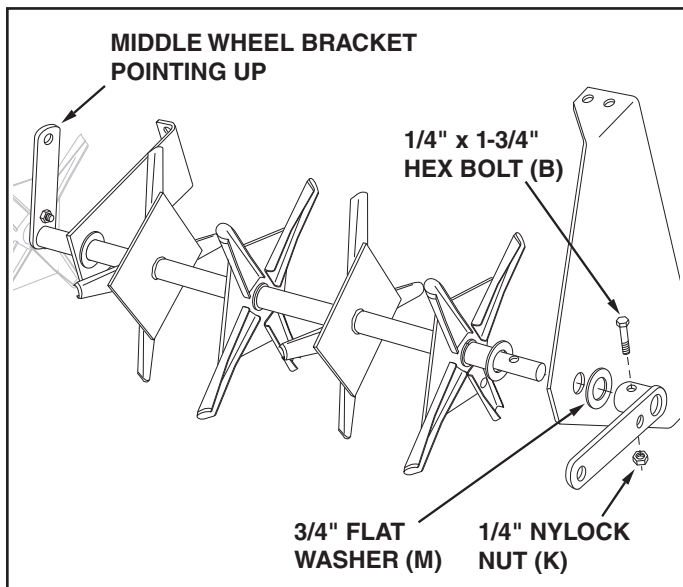

FIGURE 5
6. Rotate the wheel bracket fastened to the middle of the shaft so that it is pointing upward. Assemble an end plate, a 3/4" flat washer (M) and a second wheel bracket onto the **long end** of the shaft. Point this wheel bracket as shown in figure 5. Secure it to the shaft using a 1/4" x 1-3/4" hex bolt (B) and 1/4" nylock nut (K). **Tighten.** Repeat on short end of shaft.